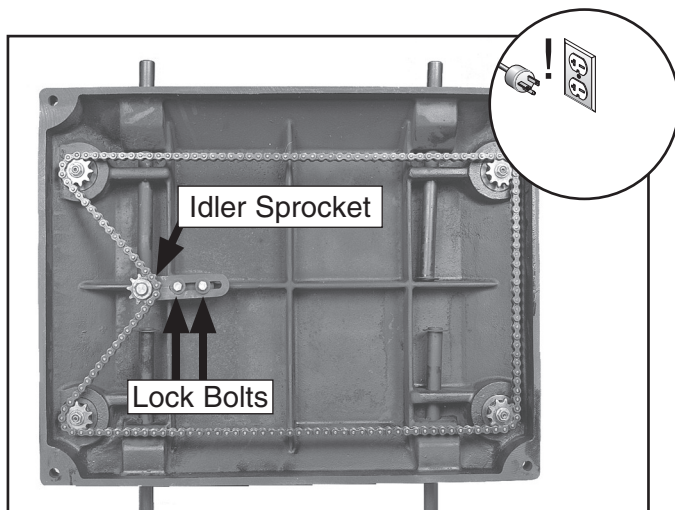

Figure 24. Underside of table.
3. Loosen the two locking bolts and move the idler sprocket until chain play has been eliminated (**Figure 24**).